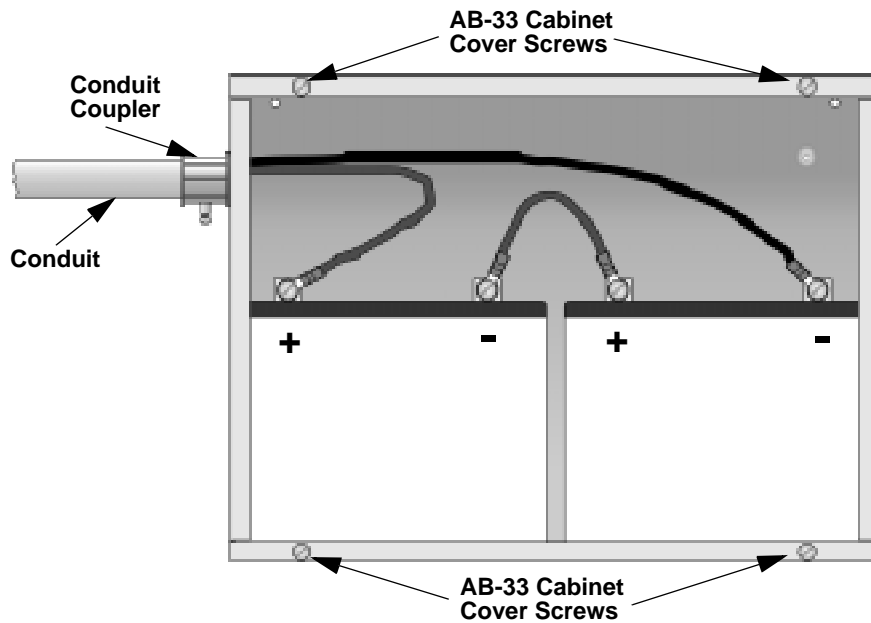

Figure 4-5 Battery Connections in the AB-33 Cabinet
3. Run extended battery cable from control panel cabinet through conduit to AB-33 cabinet. See Figure 4-5.
4. Connect battery leads to the backup battery terminals. See Figure 4-5.
5. Insert the AB-33 cover screws into the cover mounting holes (see Figure 4-5).